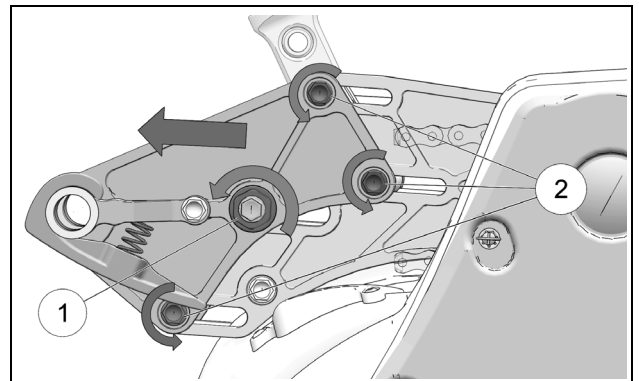

Figure 22
- Loosen nut on eccentric bolt (1) and the Bike mount M8 adjustment bolts (2).
- Using a 12mm socket, rotate eccentric bolt to move the Bike mount out. See Figure 22.